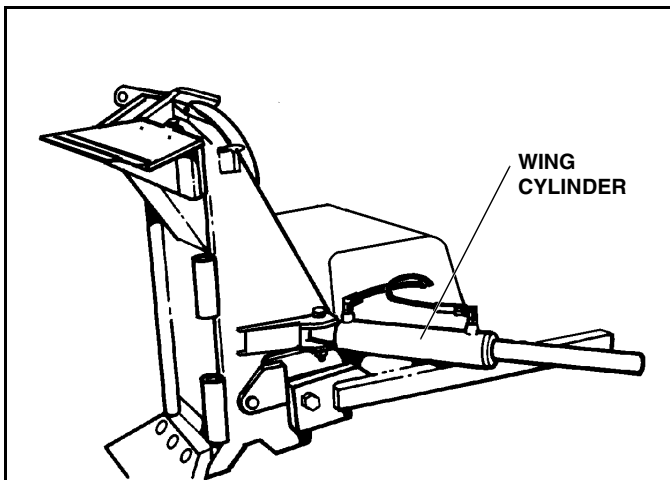

Figure 2-2
3. Swing the Wing Cylinders out to the side so they will be out of the way for installing the Wings. (See Figure 2-2)